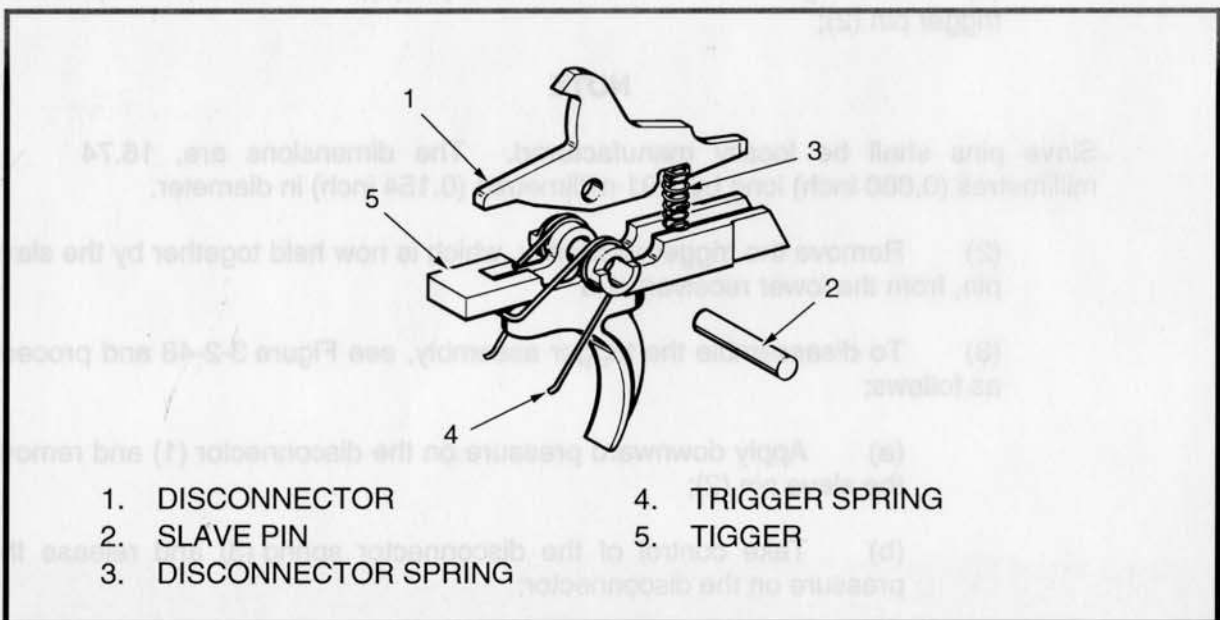

Figure 3-2-48 Disassembling the Trigger Mechanism
- (2) Remove the trigger assembly, which is now held together by the slave pin, from the lower receiver; and
- (3) To disassemble the trigger assembly, see Figure 3-2-48 and proceed as follows:
- (a) Apply downward pressure on the disconnecter (1) and remove the slave pin (2);
- (b) Take control of the disconnecter spring (3) and release the pressure on the disconnecter;
- (d) Carefully remove the trigger spring (4) from the trigger (5).